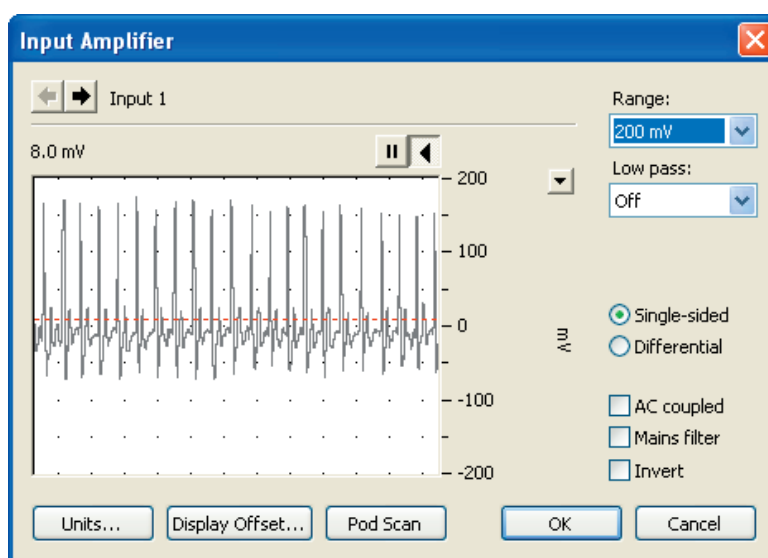

Figure 5. The Input Amplifier dialog box displaying a pulse signal.
2. Select 200 mV from the Range pop-up menu: the signal now has a much larger deflection. Continue to adjust the range setting until the signal fills about a third of the window (Figure 5). The signal from the pulse transducer has not changed, only the sensitivity of the recording system. If the rhythmic signal is a series of downward deflections, click in the Invert checkbox to reverse the direction. The size of the signal will vary from person to person. If no signal is observed, adjust the position and tension of the pulse transducer on the finger.